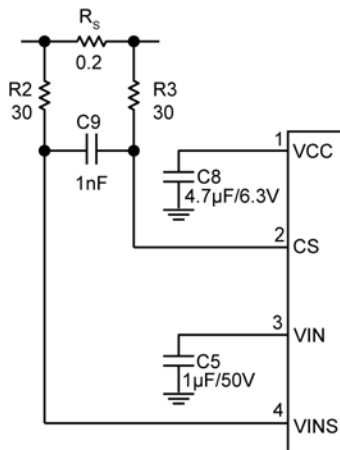

Figure 3. Input Filter for Low Values of  $\Delta V_{HYS}$
- Make a Kelvin connection to the VINS and CS pin, respectively, for current sensing. For low values of  $\Delta V_{HYS}$  (around 40mV) the switching noise could cause faulty switching on the DRV pin. If this occurs, place two 30 $\Omega$  resistors and a 1nF capacitor, as shown in Figure 3, to filter out switching noise for low values of  $\Delta V_{HYS}$ . Alternatively, as seen in Equation 8, a smaller inductor value can be used to increase  $\Delta V_{HYS}$  and make the system more noise tolerant.